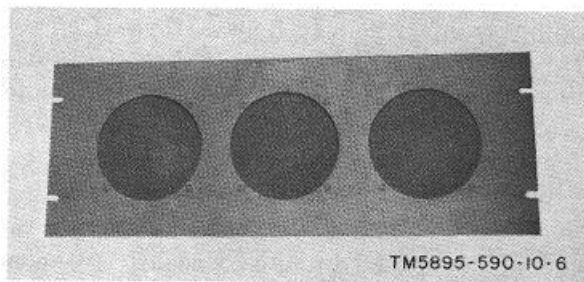

Figure 1-7. Speaker Assembly LS-563/FSQ-75(V).
(1) *Speaker Assembly LS-563/FSQ-75(V)* (fig. 1-7). The speaker assembly is used for aural presentation of received signals. Individual speakers are designed to handle 5 watts of power. Three speakers mounted together in a standard 19-inch panel make up the assembly; each individual speaker is mounted in a bell-shaped housing with baffle material. The cone of each speaker is protected by metal grillwork. A cord extending from the speaker housing is provided with a plug for connection inside the console.